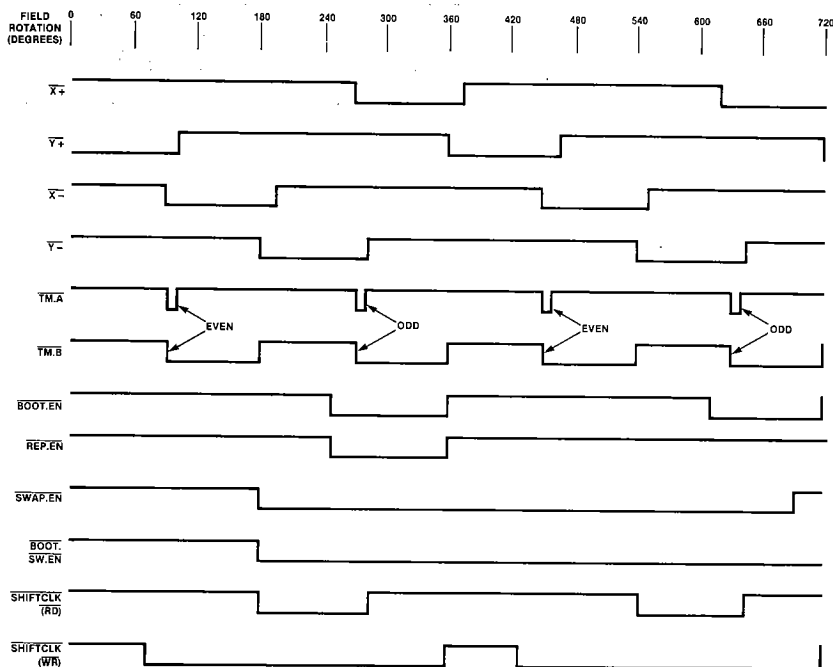

Figure 5. System Timing
2. Data cannot be written to the bubble memory until 40 clock cycles after  $\overline{\text{SYNC}}$  (see Figure 5).